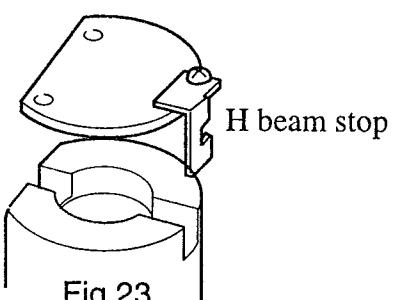

Fig.23
Step 4. Install the shield plate and the H stop (Fig 23).